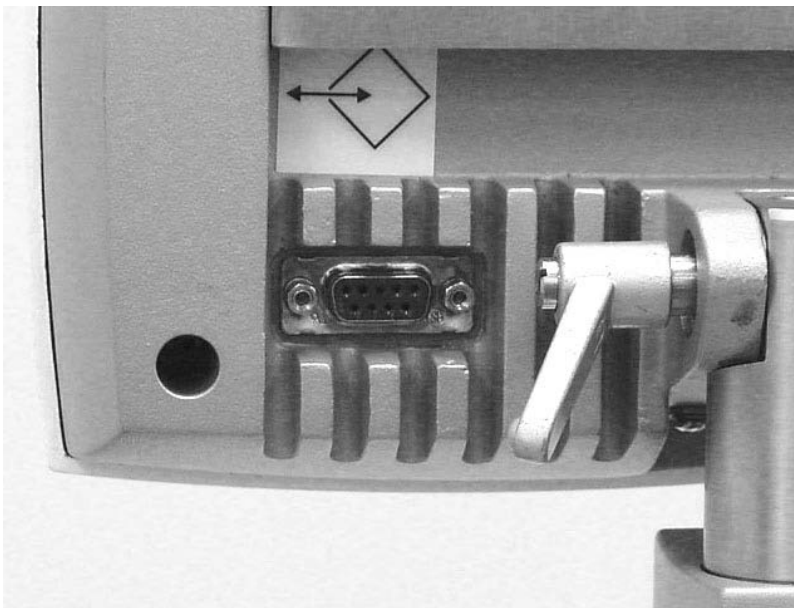

Figure 4.79. RS-232 Connector – Rear Display Head
9. Connect the HMIA RS232 connector, labeled RS232, to the mating connector on the rear of the display head. (See Figure 4.79.)